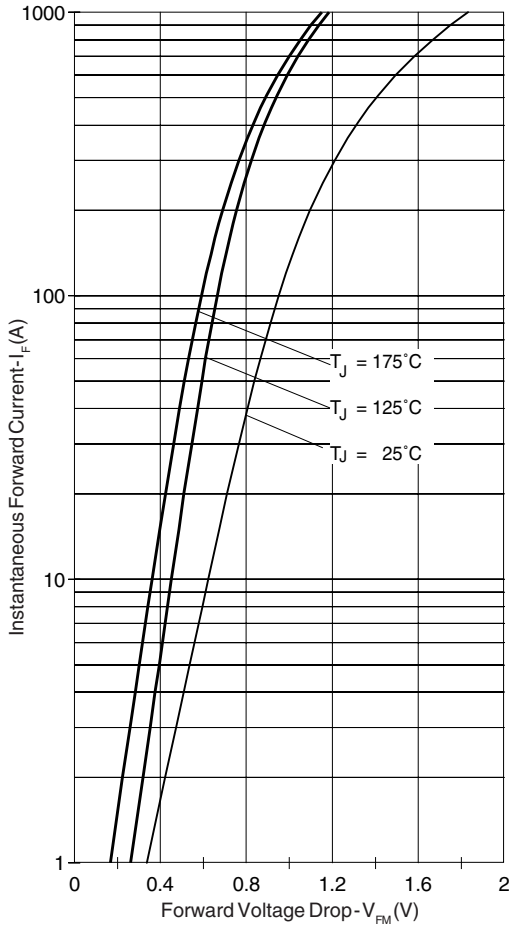

Fig. 1 - Max. Forward Voltage Drop Characteristics
| V_{FM} Max. Forward Voltage Drop (1) * See Fig. 1 | 1.07 | V | @ 180A |